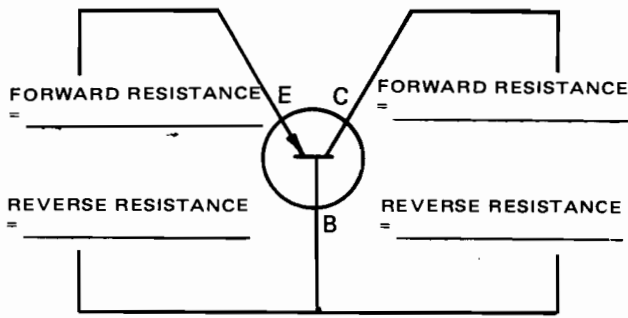

Fig. 13-3-7
11. Complete drawing of Fig. 13-3-7 by supplying measured resistance values.